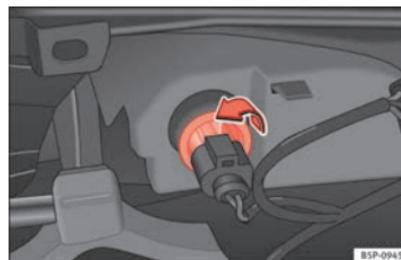

Fig. 194 Lamp on interior side of bumper.
- Rotate the bulb holder to the left, and remove it in the direction of the arrow ⇒ Fig. 194.